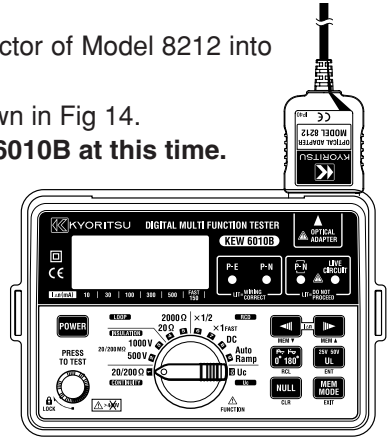

Fig 14
(1) Firmly insert the D-SUB 9Pin female connector of Model 8212 into the socket (D-SUB 9Pin male) of PC.
(2) Insert Model 8212 into KEW 6010B as shown in Fig 14.